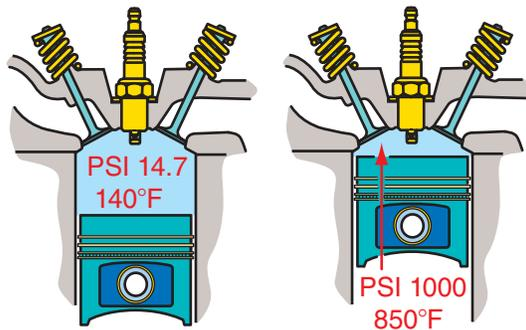

FIGURE 1.9 The air-fuel mixture heats up as it is compressed.
- Power Stroke.** As the piston approaches TDC on its compression stroke, the compressed air-fuel mixture becomes very explosive (**FIGURE 1.9**). When the ignition system generates a spark at the spark plug, the fuel ignites. The air-fuel mixture burns,